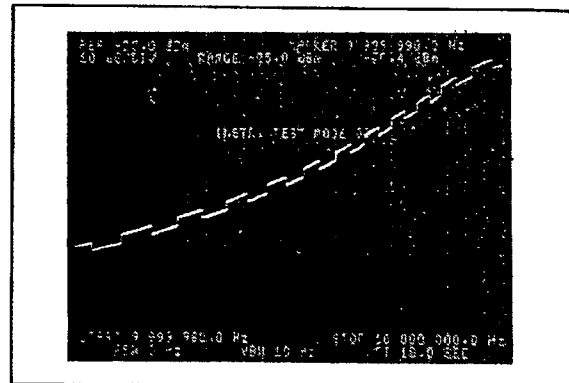

Figure 11-P-8. Faulty A/D Converter Response
- K.** A main signal path problem has occurred. Use the flow chart in Figure 11-P-9 to help isolate the problem to one or more boards.